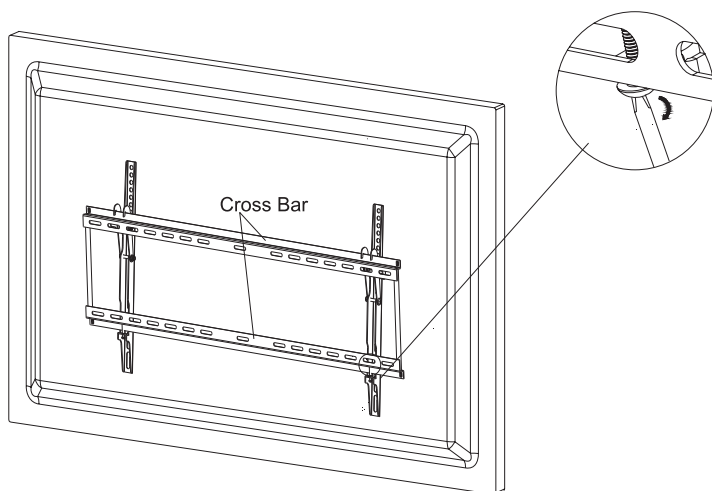

figure 4
Caution: Some flat panels are heavy: two strong people are required; lift and position carefully. Lift TV with interface arms onto the cross bar of the wall bracket (AA), and then lower into place until the hooks are fully seated on the cross bar of the wall bracket assembly. Lock the screws to prevent the tilting arm assembly falling off the wall bracket, as shown in figure 4.